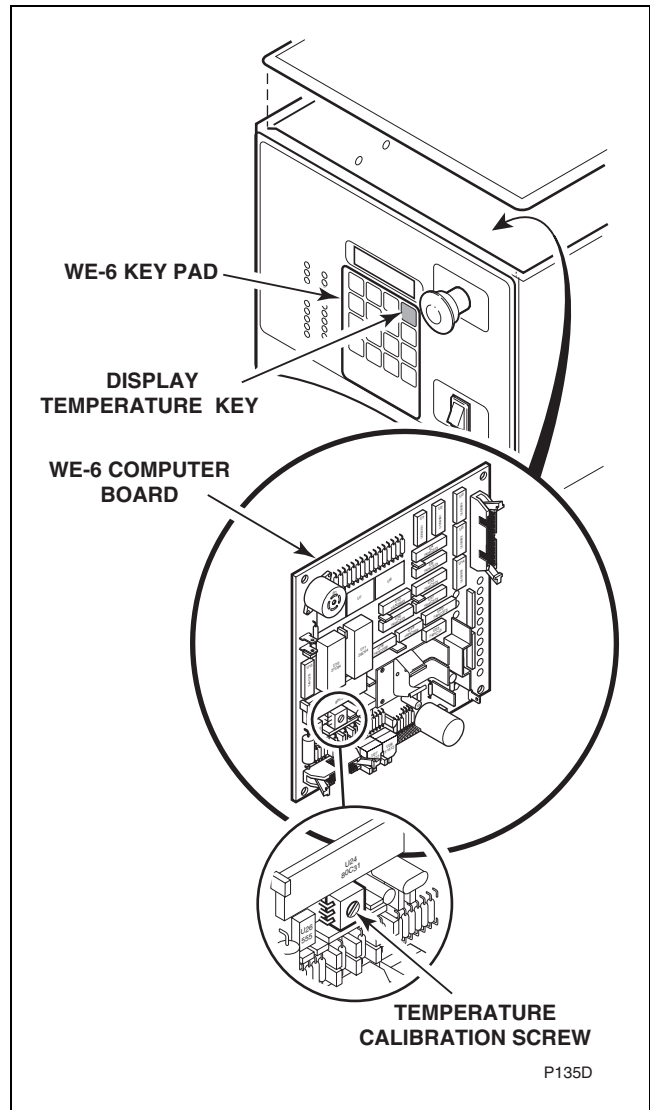

Figure 11
- d. Looking at the lower left of the computer board from the rear of the washer-extractor, find the 1/2 inch x 1/2 inch (13 mm x 13 mm) square blue component with a white plastic screw head in its center. This is the temperature calibration potentiometer. Turning the screw head adjusts the temperature reading. Refer to *Figure 11*.
- (1) Wash 3 for 10 seconds.
- (2) Cold fill to high level.
- (3) Wash 3 for 9 minutes, 99 seconds.
- g. Start the cycle and, when the high water level is reached (and the external temperature sensor is submerged), press the “Display Temperature” key on the WE-6 keypad. Refer to *Figure 11*. The display will show a temperature.